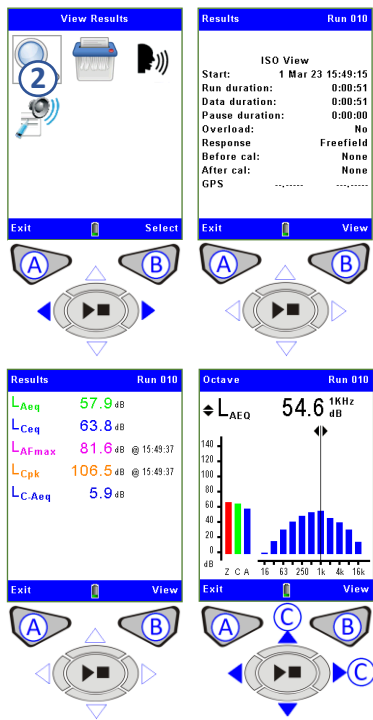

Figure 10 Memory Screens.
From **MENU** screen, use cursor keys (C) to select **MEMORY RESULTS** (1) and press (B) to continue. Use cursor keys (C) to select a Memory Result. Press (B) to select measurement. Use cursor keys (C) to select **VIEW RESULTS** (2) (See Figure 10 over page). Press **Select** (B) to continue. The selected Memory Results are displayed. For additional data press **View** (B).
This screen displays detailed specific data for the saved Memory Results (Figure 10). This is read only data. To view this data in a graphical format, press **View** (B). The Octave values saved in the Memory Results are displayed in a graphical format. Use cursor keys (C) to move the vertical line across the graph. Each graph bar represents an octave level measured in Hz or kHz. Press **View** (B) again to view tabular octave results.